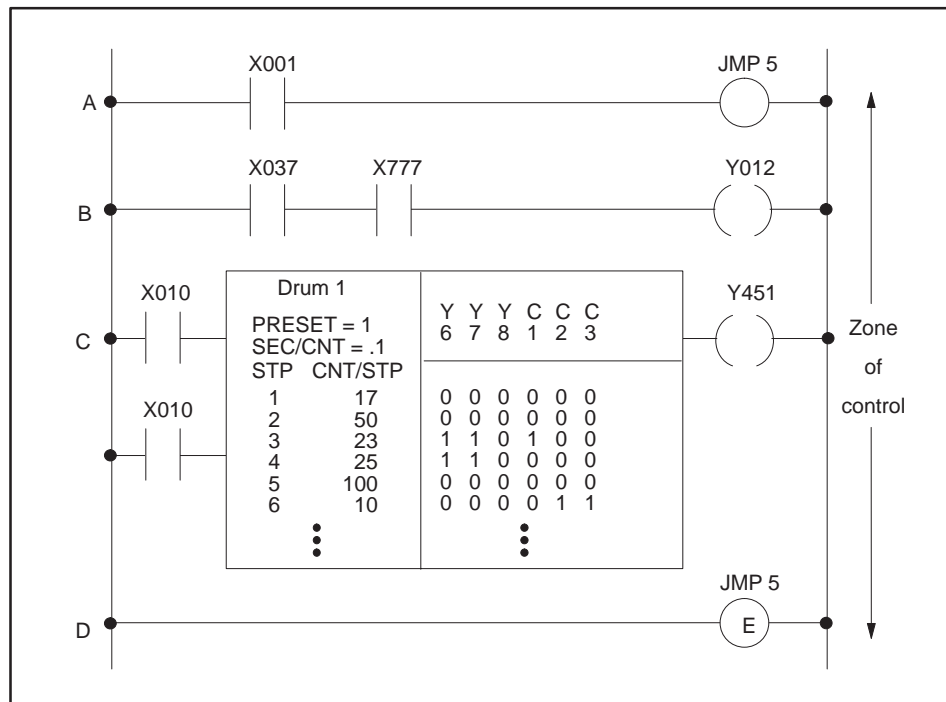

Figure 6-29 Example of JMP Zone of Control
In Figure 6-29, a JMP is located on rung A, and its zone of control is terminated by JMPE (End Jump) on rung D.
- Discrete outputs and control relays contained within an instruction, such as a drum, for example, are also controlled by the JMP. In Figure 6-29, Y6, Y7, Y8, C1, C2, and C3, as well as Y12 and Y451, are frozen when the JMP loses power flow.